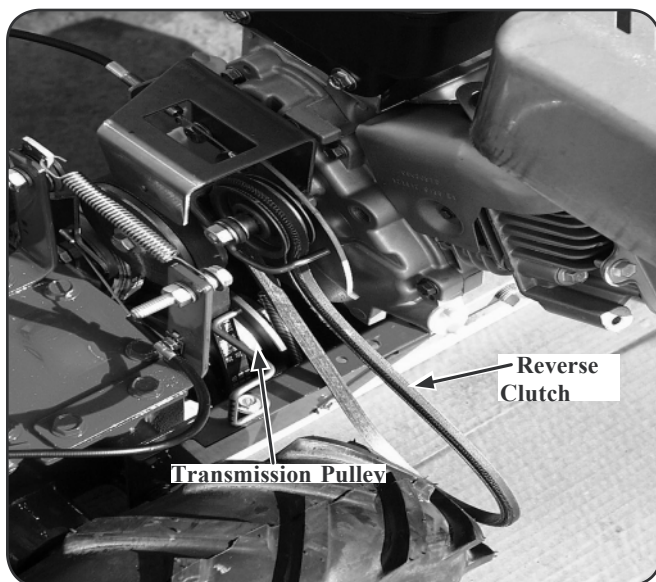

Figure 7-1
3. Move the reverse clutch belt out of the way. You do not need completely remove the belt. Press the reverse idler pulley inward for slack and then slip the bottom half of the belt completely off the transmission pulley. Pull the bottom half of the belt out of the housing and let it hang off the outside of the tiller. See Fig. 7-1.